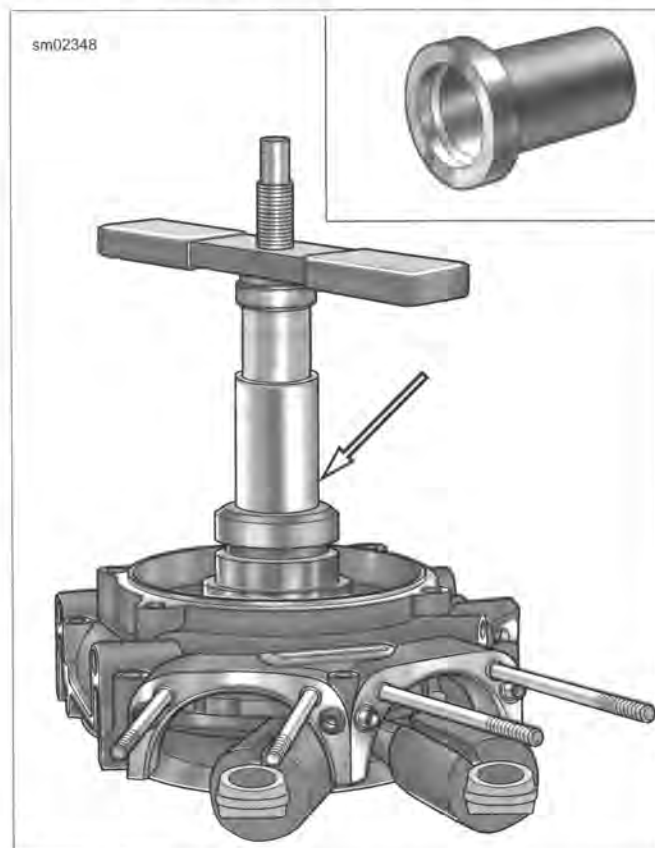

Figure 3-139. Sprocket Shaft Oil Seal Installer
13. See Figure 3-139. Install **new** oil seal into bearing bore. Obtain pilot adapter, pilot shaft, short collar, bearing, large